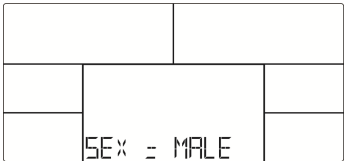

FIG 23
3. The spreadsheet will display the user's gender (Figure 23), height, weight and start the test.